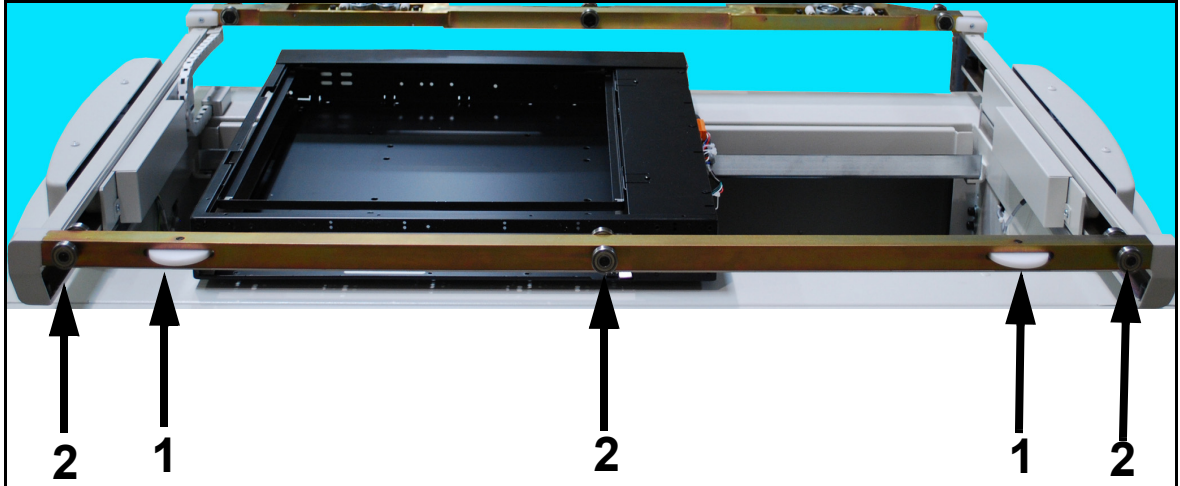

Figure 2-34. Guide Roller and Bearing Removal
- 56** Remove guide rollers (1 in Figure 2-34) and bearings (2) from front of table.